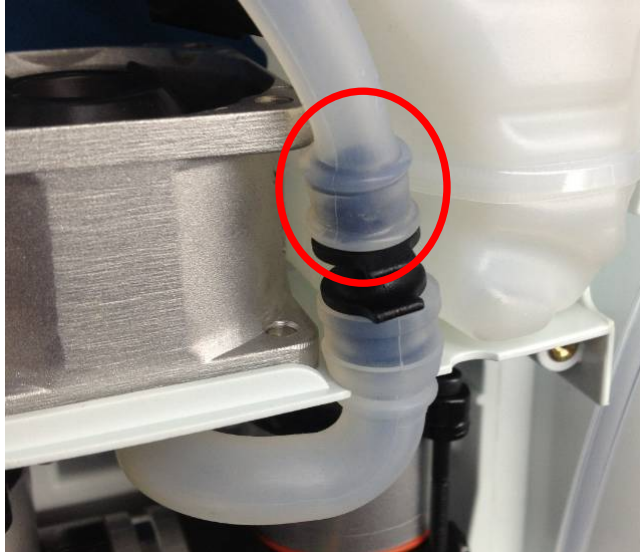

Figure 10: Inlet T tube and inlet union
2. Detach the Inlet T tube from the inlet union barb (Figure 10) and remove the Inlet T tube from the device.
2. Attach the bottom end of the new Inlet T tube to the inlet union (Figure 10). Make sure the tubing is fully seated onto the inlet union.